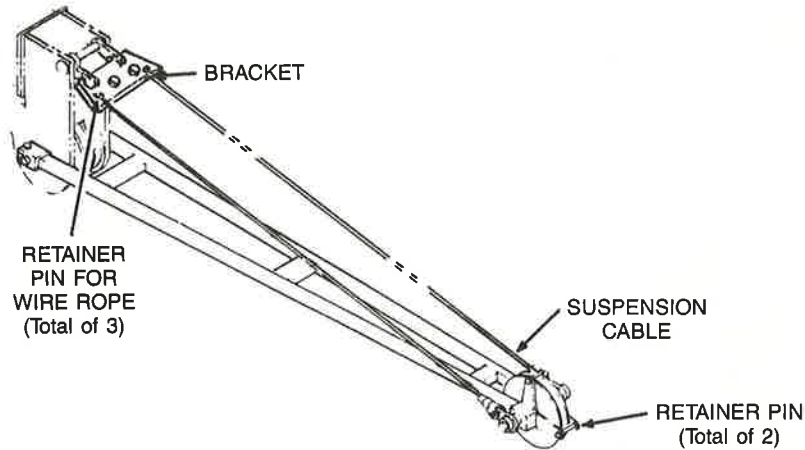

Figure 28. Jib Installation
2. Install the bracket for the suspension cable on the boom head as shown. See Figure 28.